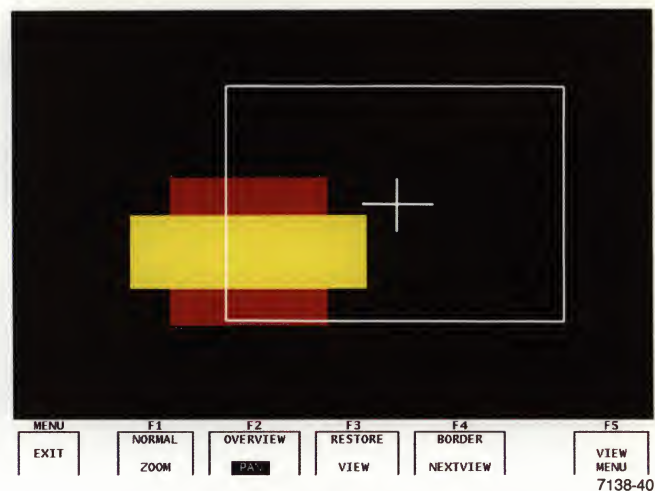

Figure 6-4. Display With Pan.
4. When the framing box is positioned over the portion of the graphic you wish to see, press F3 to redraw the display. See Figure 6-4.